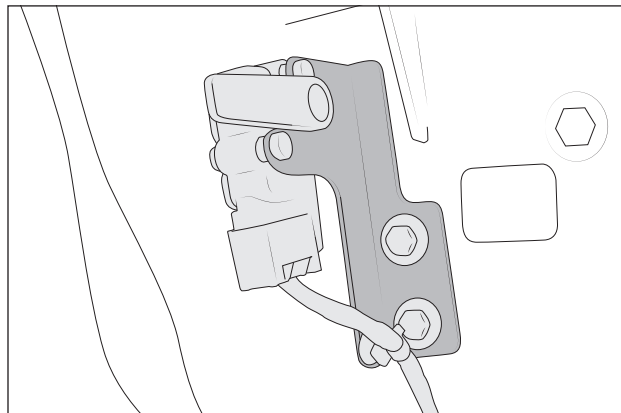

Figure 24
21. Remove factory front ride height sensor brackets from the frame and sensor. Replace with AEV supplied brackets to properly re-locate the sensors. Be careful not to stress the sensors, arms, or wiring while switching brackets (fig. 24).